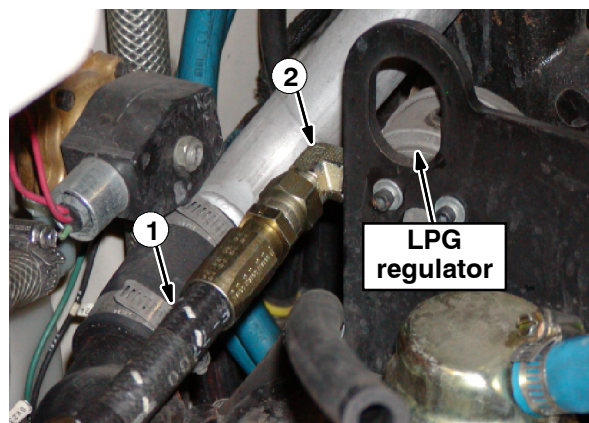

FIG. 14
33. Thread a 90° hydraulic fitting (2) into the LPG regulator. Refer to Fig 14.
34. Loosely thread the 8.5" LPG hose (1) into the fitting (2) installed into the LPG regulator in the previous step. Refer to Fig 14.